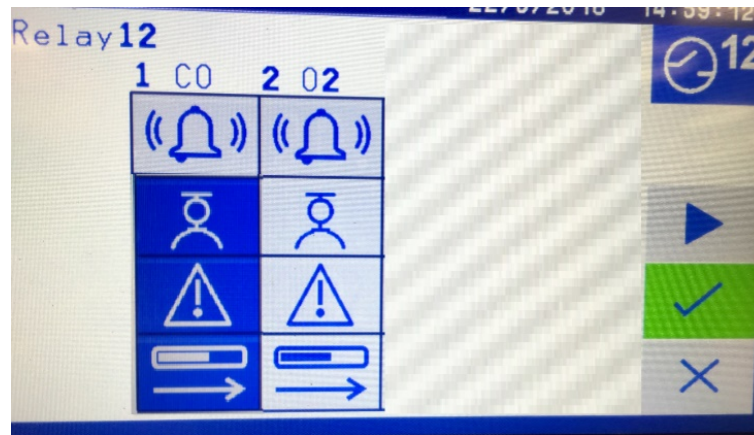

Figure 10-12: Activity Assignment Menu for Relay #12 in an analyzer with two transducers (CO and O₂).
Use the Activity Assignment Menu (Figure 10-12) to assign a function to a specific relay by touching the functions icon and activating it. Each relay can be assigned to one or more of the transducers purchased, which will be listed on the screen. Any number of links may be made between any function to any relay card present within the analyzer.
Multiple activities can be assigned to one relay. In Figure 10-12 the Calibration, Fault and Out of Range functions for the CO transducer are all active (so the icons show a dark blue background) and are assigned to Relay #12.
Those activities can also be linked to different transducers present in the analyzer. In Figure 10-12 Relay #12 can be assigned alarms for Transducer #1 (CO) and / or Transducer #2 (O₂). To assign an alarm to Transducer #2 (in this case it is O₂):
- touch the alarm icon  located below the O₂ symbol as shown in Figure 10-12
- Touch the  icon (see Figure 10-12) to save the relay information.